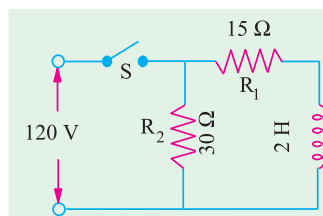

Fig. 8.13
**Example 8.19.** With reference to the circuit shown in Fig. 8.13, calculate :
**Solution.** (i) When switch  $S$  is closed (Fig. 8.13), the supply d.c. voltage of  $120 V$  is applied